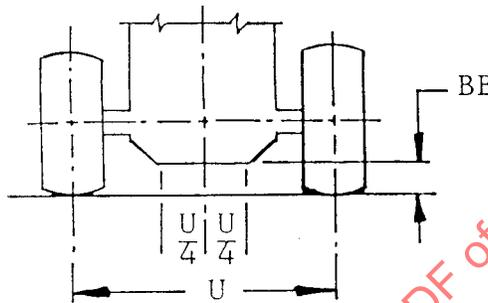

FIGURE 4—GROUND CLEARANCE
**4.31 Ground Clearance (BB)**—The perpendicular distance from the horizontal reference plane to the lowest point of the center portion of the machine. The center portion of the machine is defined as 25% of the tread to either side of the longitudinal centerline. (Figure 4)